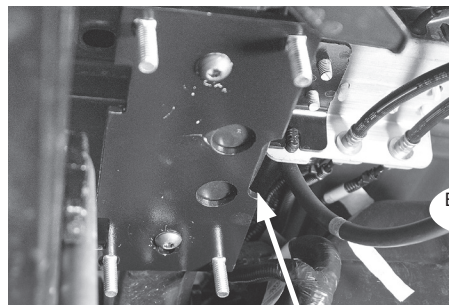
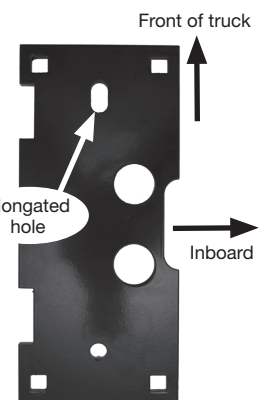

Fig. 6
Fig. 7
5. Insert the 3/8"-16 x 1 1/4" carriage bolts (I) into the upper frame brackets (D). Install the upper bracket onto the frame using the M10-1.5 x 35mm button-head cap screws (J). The slot on the side of the bracket should be inboard of the frame rail (Fig. 6). The elongated hole should be toward the front of the truck (Fig. 7). Torque hardware to 38 lb.-ft. (52Nm).